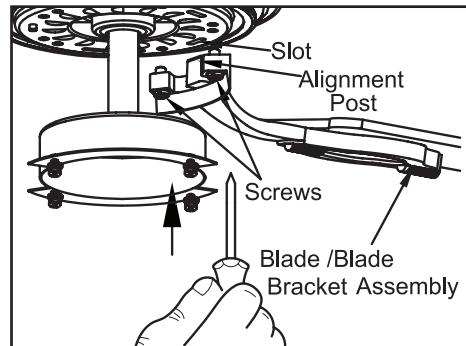

Figure 14
3. Fasten the blade assembly to the motor by inserting the alignment post into the slot on the bottom of the motor and tightening the blade bracket screws. Please note that the blade bracket screws are pre-installed into the blade bracket (Figure 14).